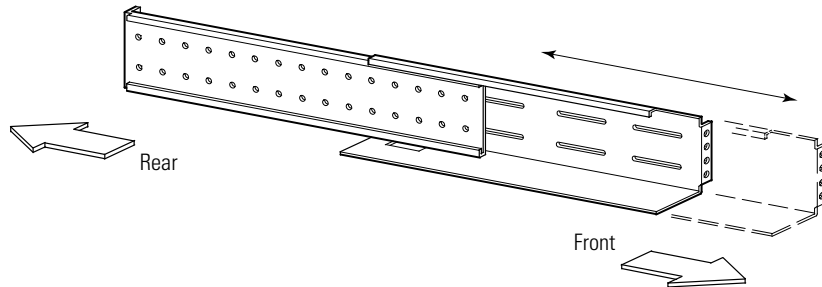
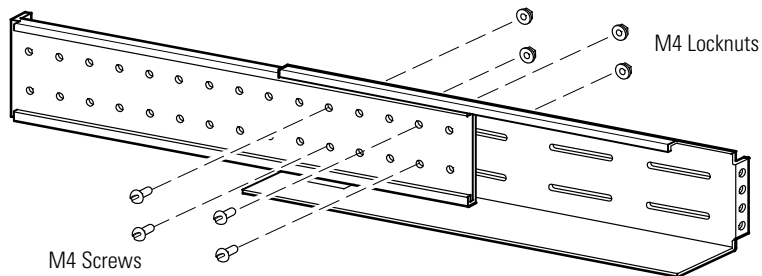

Figure 3. Adjusting the Rail Depth (Right Rail Assembly Shown)
Figure 5. Tightening the Rail Adjustment (Right Rail Assembly Shown)
2. If access to the sides of your rack is difficult, adjust the length of the rails (see Figure 3) and loosely install the fasteners (see Figure 5) before continuing to Step 3.
- Adjust the rail size on the rail assembly for the depth of your rack (see Figure 3).
7. To tighten the rail adjustment, assemble four M4 machine screws and four M4 locknuts to the middle of the rail assembly. Tighten using a 7 mm (9/32") nut driver. See Figure 5.